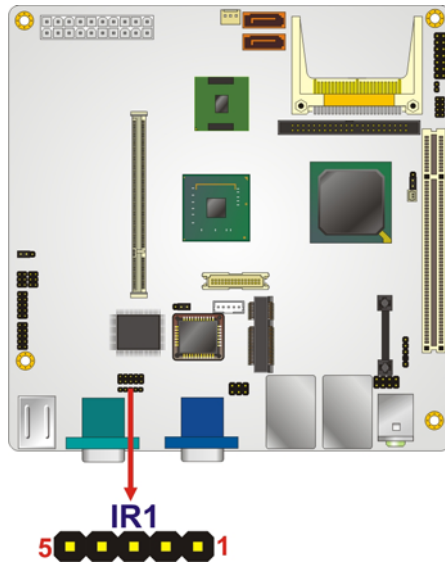

Figure 4-10: Infrared Connector Pinout Locations
- CN Location:** See Figure 4-10